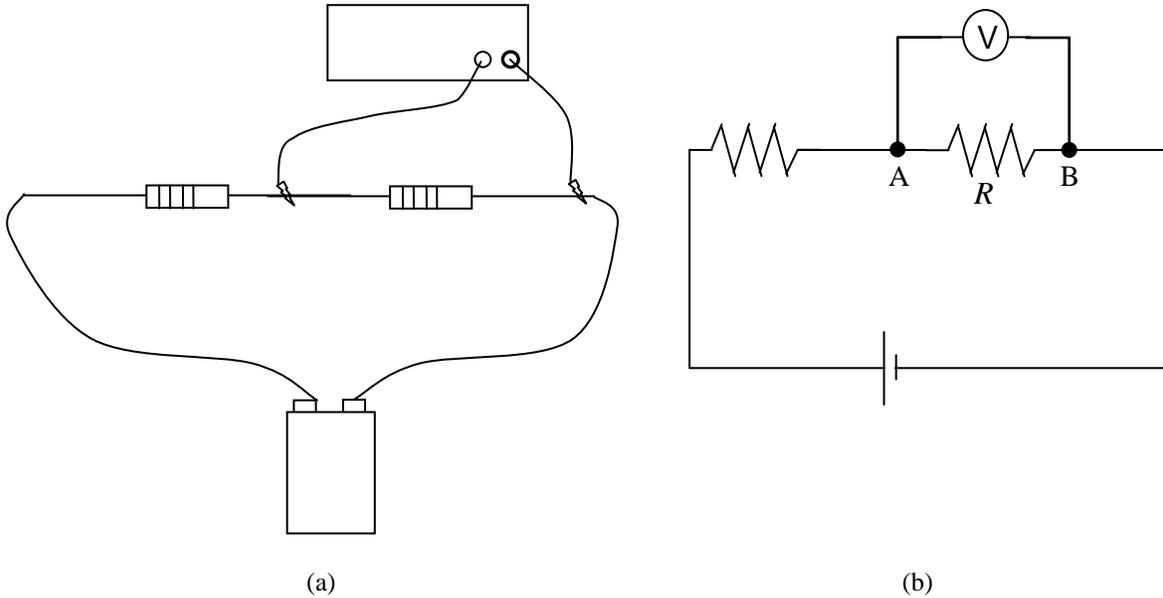

Figure 2. Measuring the voltage,  $V$ , across a resistor  $R$  with a voltmeter (symbol  $V$ ). (a) Representative drawing; (b) the same in circuit symbols.
A voltmeter measures the difference in electrical potential between two different positions in an electrical circuit. Therefore, **to measure the voltage touch two different positions in the circuit with the two probes**, as shown in Figure 2. You measure the voltage *across* an electric component or system of components, i.e., the meter is connected in *parallel* with the component.
- Once the circuit is connected (including both resistors), set the multimeter on volts and measure the voltage across  $R_1$ . (See Figure 2.) Record this value in Table 2. (Don't forget the units!)